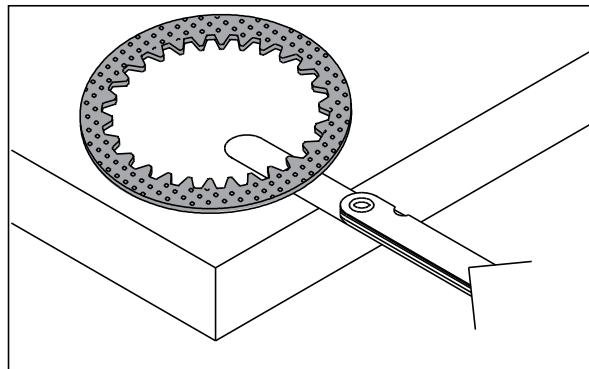

Fig. 3.19
- Inspect the plates clutch driven for distortion using a feeler gauge as shown. (Fig. 3.19)